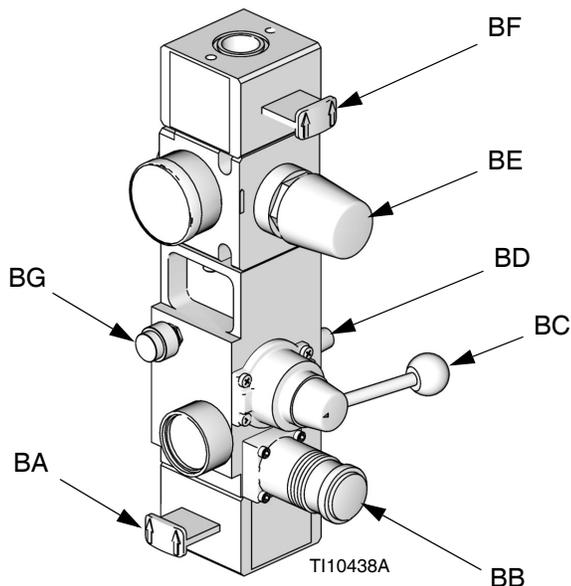

FIG. 2. Integrated Air Controls
NOTE: Refer to FIG. 2 on page 8 for the following procedure.
3. Position both A & B units about half way up, place in “Neutral”, and open both motor isolation slider valves (item BA in FIG. 2 on page 8).